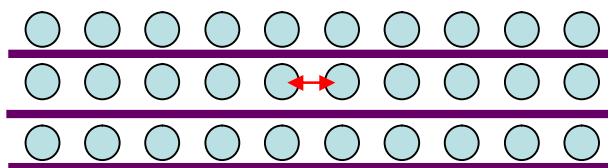
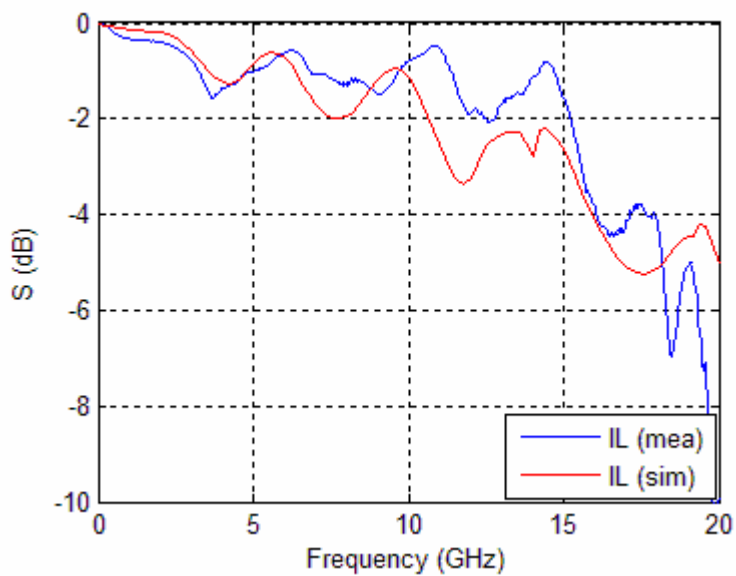

Figure 4-20
Figure 4-21 Single-ended insertion loss
Figures 4-21 to 4-23 show the measured vs. simulated single-ended insertion loss (IL), return loss (RL), near-end crosstalk (NEXT), and far-end crosstalk (FEXT) between two nearest neighbors in an IT3-25mm connector (Figure 4-20). Data at other stack heights are detailed in Section 4.6.